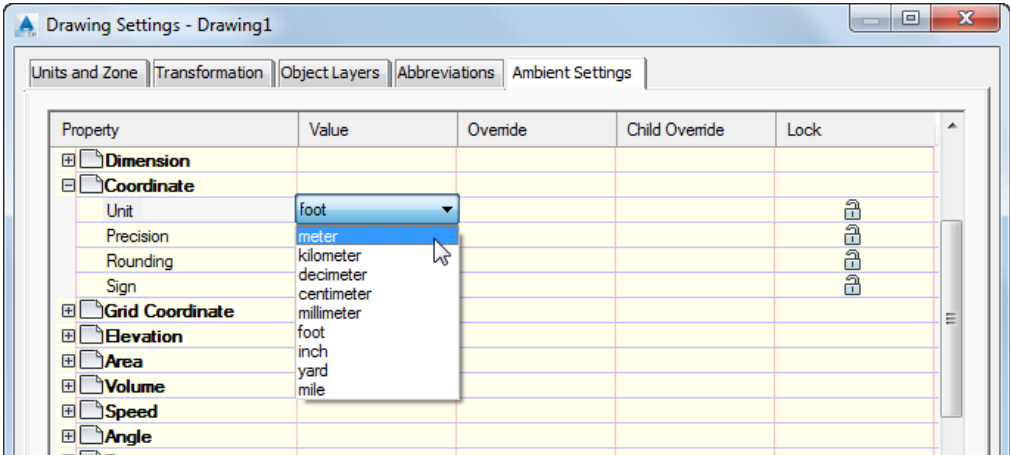

Figure 3-74 Selecting the meter option for the Unit cell from the drop-down list
4. Next, choose the **Ambient Settings** tab. Expand the **Coordinate** node and click on the cell in the **Value** column corresponding to the **Unit** property; a drop-down list is displayed. Select the **meter** option from the drop-down list, as shown in Figure 3-74.